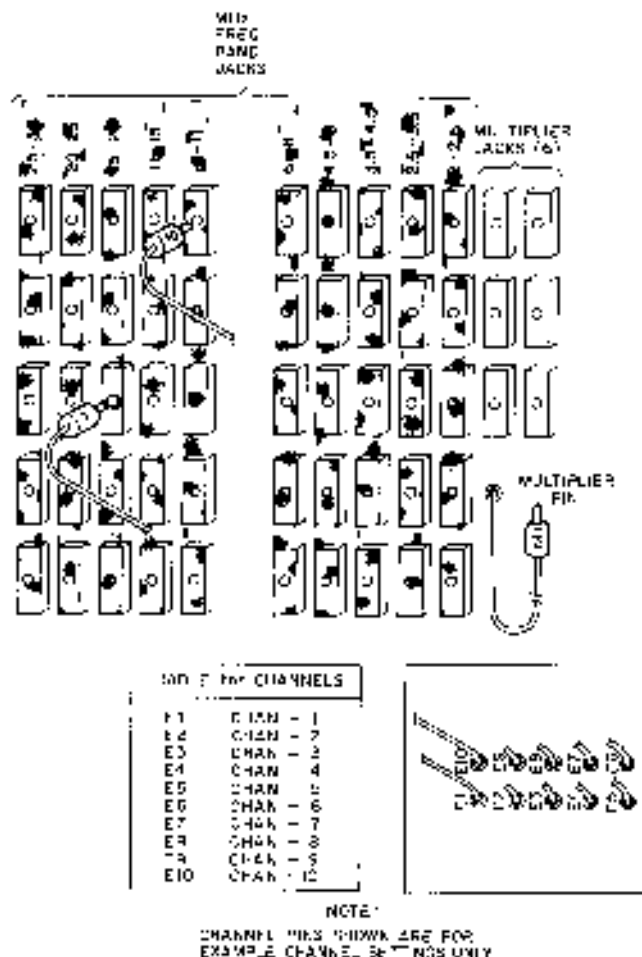

Figure 3.6 Channel Vs Frequency Band Connections
1. Program each channel that is to be used to the frequency band that contains the channels operating frequency. This is accomplished by connecting the channel pins (E1 through E10) into the frequency band jacks, refer to figure 3.6.